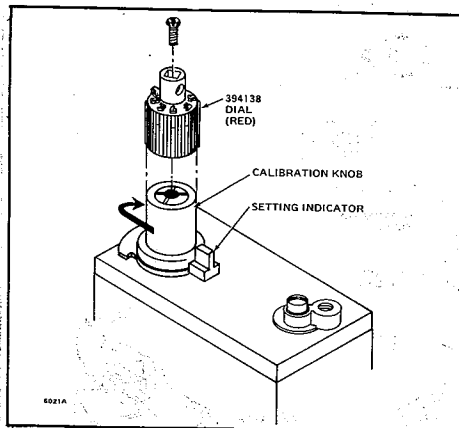

Fig. 12— Calibrating V504/V524 with dial on operator.
4. Slide the dial over the knob so that the dial number corresponding to the room temperature aligns with the indicator on the valve body. See Table 3 and Fig. 12.